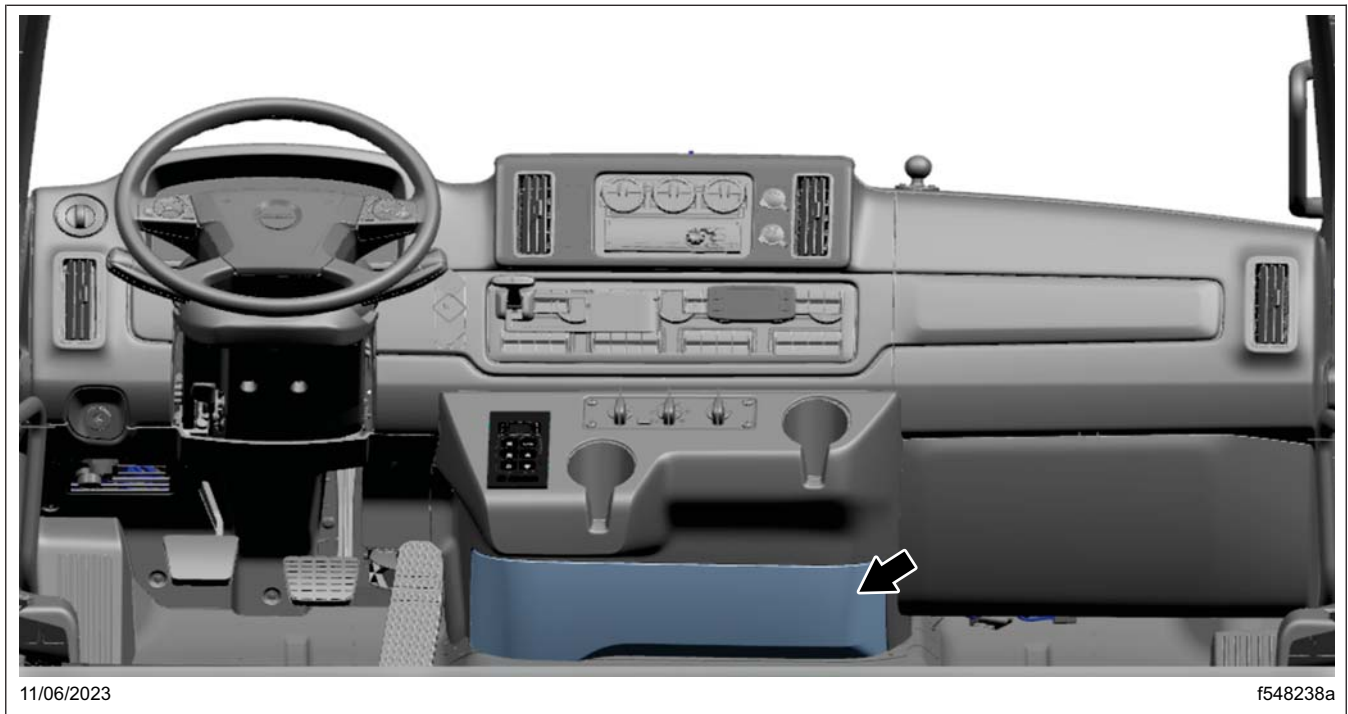

Fig. 10, Lower Dash Cover
4.9 Remove the lower dash cover. See Fig. 10.
NOTE: If the vehicle does not have a removable lower cover, as shown in Fig. 10, the center dash panel (doghouse) has to be removed. For instructions to remove the center dash panel, see Section 60.08 of the *Business Class M2 Plus Workshop Manual*.